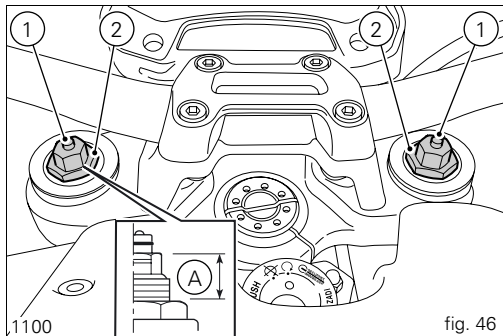
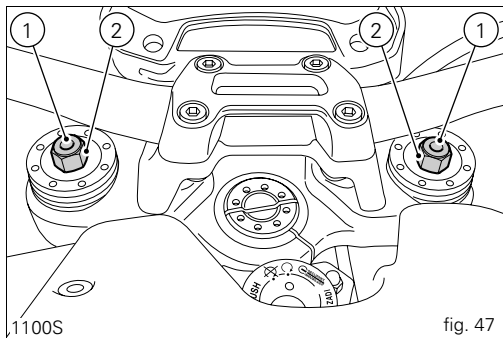

fig. 46
fig. 47
- 1) to adjust rebound damping (fig. 46 and fig. 47);
- 2) to adjust inner spring preload (fig. 46 and fig. 47);
Spring preload (A, fig. 47): 10 mm (3 turns from fully open position).
To adjust the preload of the spring inside each fork leg, turn the hexagonal adjuster nut (2, fig. 46) with a 22 mm hex wrench.
To change the spring preload for each fork leg, turn the adjuster (2, fig. 47) with a 22 mm hex wrench.